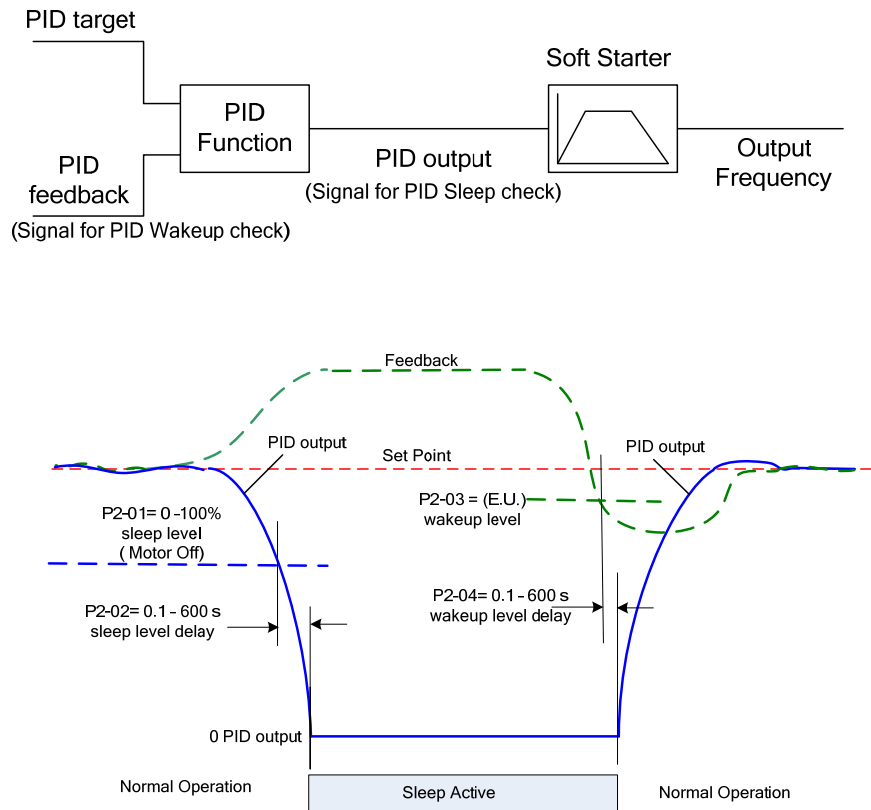

Fig. 1.3.1 PID Sleep Function
- The following Fig.1.3.1 shows a block diagram and graph illustrating the PID sleep function.